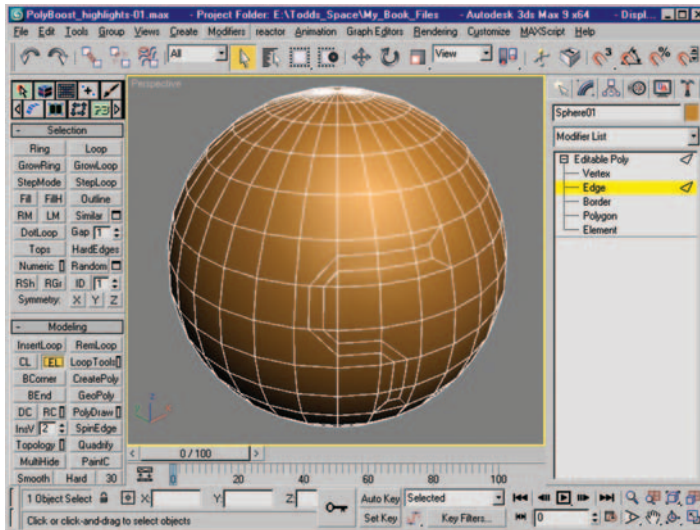

Figure 12.7 Double edge loop with Quad ends after using EL.
9. Click the EL button in the PolyBoost interface. This tool builds end loops, a double loop with Quad-based ends. Figure 12.7 shows the resulting double loop with Quad ends.